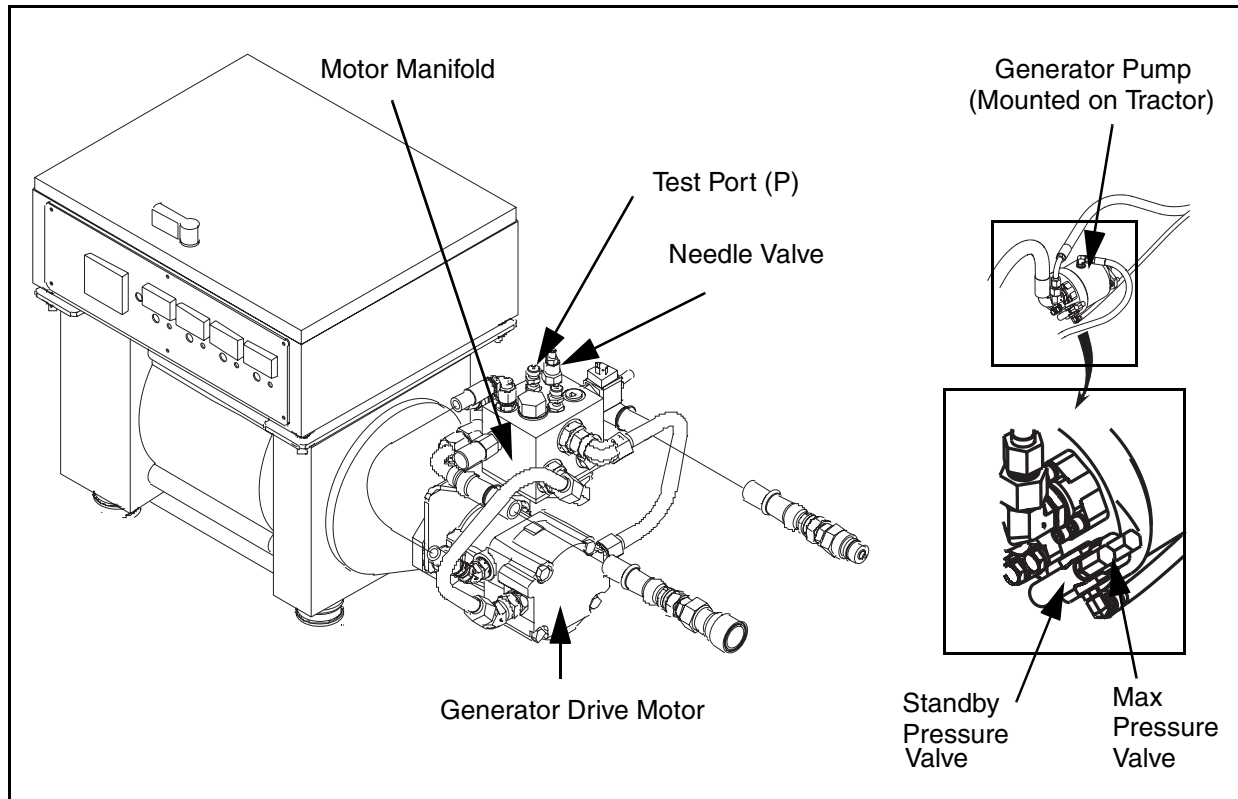

Figure 5 - 3 Stretch 16 & 18 Screed Generator Hydraulic Pump Assembly
- 2) Turn generator switch ON (Figure 5 - 1).
- 3) Turn each screed section control switch to AUTO (Figure 5 - 2).
If screed section heater power indicators (Figure 5 - 2) do not light, check circuit breakers inside of control box (Figure 5 - 1).
This hydraulic pump circuit has three valves which require adjustment: the needle valve (located on the drive motor manifold), the pump standby pressure adjustment screw and the maximum pressure valves, both located on the pump (Figure 5 - 3).